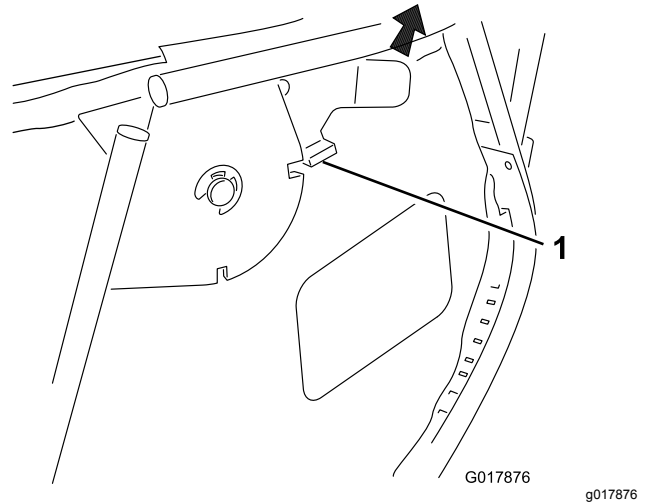

Figure 17
1. Disengage the locking latch (**Figure 17**).